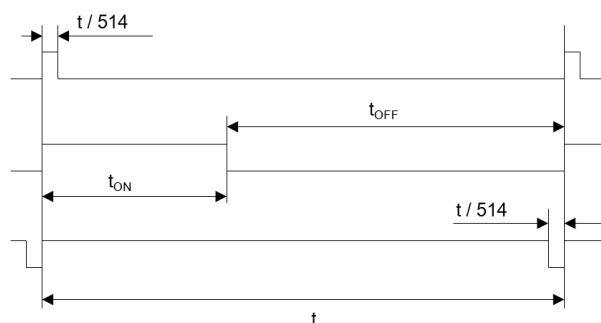

Figure 30: PWM Output Timing, Top Signal = 0°; Bottom Signal = Full Scale (i.e. 360° (1 - 1/16384))
This output provides a logic signal with a duty cycle proportional to the angle of the magnetic field. For the PWM frequency (f_{PWM}), see the General Characteristics section on page 5. The duty cycle is bound by a minimum value ($1/514$ of the period) and a maximum value ($513/514$ of the period), so it varies from $1/514$ to $513/514$ with a resolution of 14 bits (see Figure 30). The angle can be obtained by measuring the on time. Since the absolute f_{PWM} can vary from chip to chip or with the temperature, accurate angle detection requires measuring the duty cycle (i.e. measuring both the on time (t_{ON}) and the off time (t_{OFF})). The angle can be calculated with Equation (8):
Figure 30 shows one period of the PWM signal. The period (t) is $1 / f_{PWM}$.